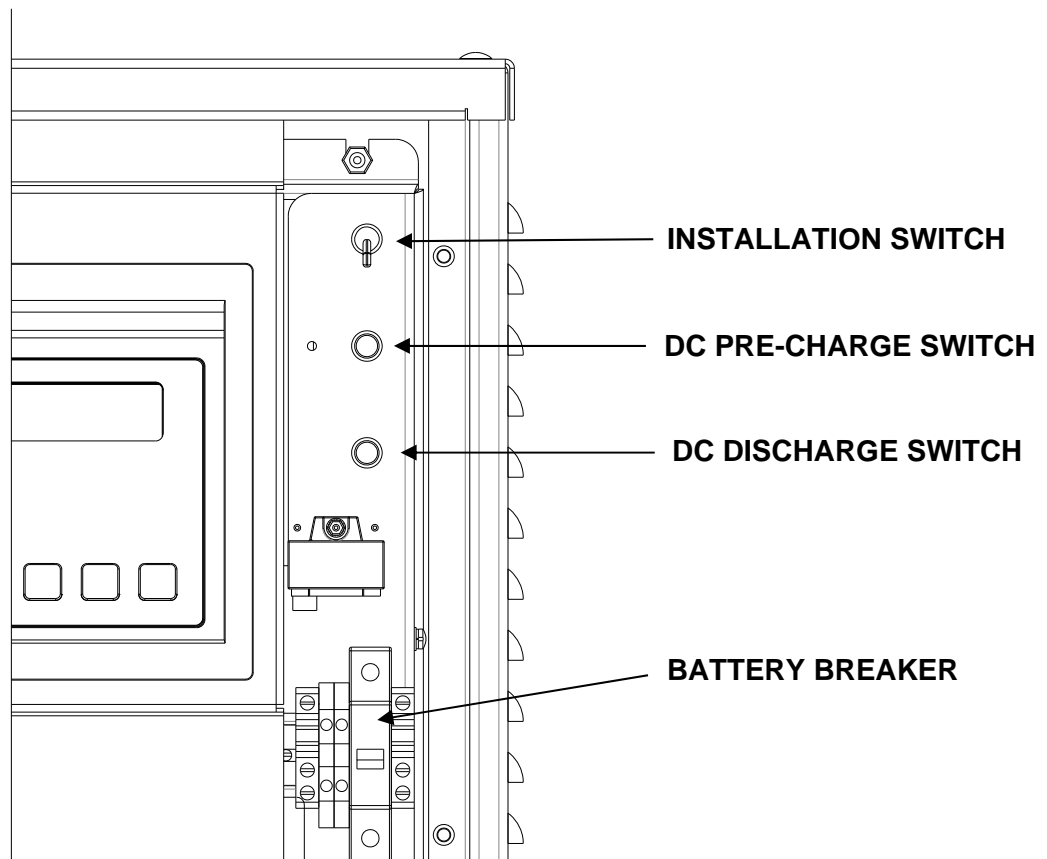

Figure 6.1 DC Pre-charge Switch, DC Discharge Switch & Installation Switch
3. Locate the DC Pre-charge Switch, see figure 6.1; press it for five seconds; then, turn ON the Battery Circuit Breaker. If a large flash occurs, the batteries are not connected properly. Call service immediately.
4. Locate the DC Discharge Switch; see figure 6.1; press it for 10 seconds.